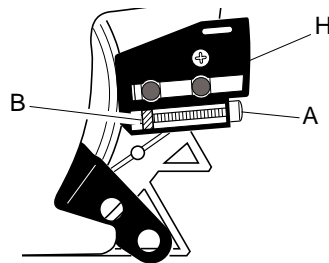
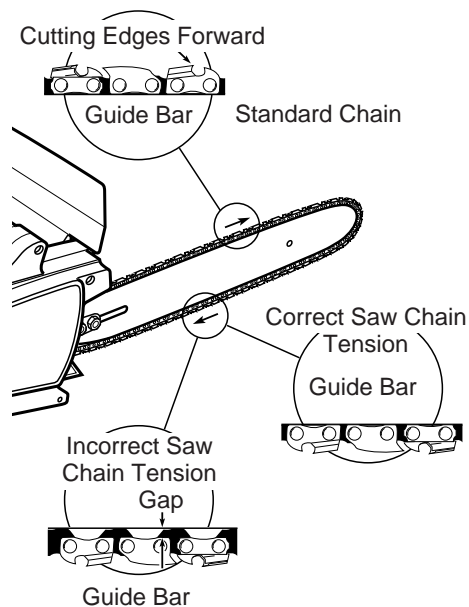

Figure 1 - Part Locations For Assembling Guide Bar
Figure 3 - Saw Chain Adjustment
1. Remove two (2) guide bar nuts (D), two (2) guide bar bolts (E) and one (1) Phillips screw (N) from the plastic bag.
2. Lay the saw chain (C) out flat.
3. Install hand guard (K) by press fitting the two bosses (L) into the hex shaped holes in the saw body. Install the Phillips screw (N) into the hand guard and saw handle and tighten securely.
4. Turn adjusting screw (A) counterclockwise to move the adjusting block (B) as far as it will go to the rear of the mount (See Figure 1).
5. Slide the guide bar (G) on to the adjusting plate (H) aligning adjusting block (B) with the square adjusting hole (I) in the guide bar.
6. Rotate the sprocket support (F) back over the guide bar so the holes line up.
7. Insert ONLY the front guide bar bolt (E) through the body of the saw and through sprocket support (F). Tighten the nut (D) only finger tight. This will allow clearance for the installation of the saw chain.
8. Slide the saw chain between the side cover and the sprocket (J), in the top groove of the guide bar (G) and around the guide bar nose.
9. Insert remaining guide bar bolt (E) and install nut (D) finger tight.
1. Before adjusting the saw chain, make sure the guide bar nuts (D) are only finger tight (See Figure 1 and 2).
2. Turn adjusting screw (A) clockwise until all slack is out of the saw chain.
3. Wear protective gloves and pull the saw chain (C) around the guide bar. It should move freely.
4. If necessary, readjust chain using adjusting screw (A). There should be no gap between the side links of the saw chain and the bottom of the guide bar (See Figure 3).
5. Tighten guide bar nuts (D) using a wrench. Nuts not tightened securely will allow guide bar movement resulting in loose chain and increasing the possibility of kickback and damage to mating parts.